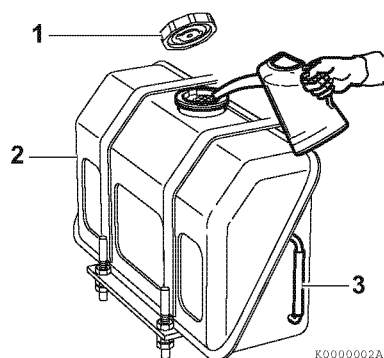

Figure 1
1. Clean the area around the fuel cap (1, **Figure 1**).
2. Remove the fuel cap from the fuel tank (2, **Figure 1**).
3. Observe the fuel level sight gauge (3, **Figure 1**) and stop filling when gauge shows fuel tank is full. Never overfill the fuel tank.
4. Replace the fuel cap (1, **Figure 1**), hand tighten. Over tightening the fuel cap will damage it.